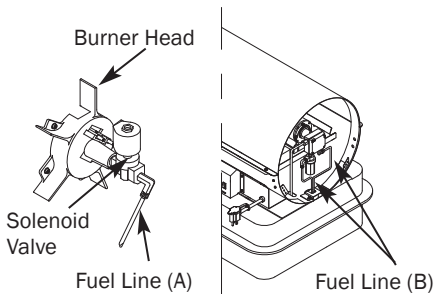

Figure 19 – Tighten Fuel Line
- Use 1/4" wrench and tighten fuel line (A) at solenoid valve and at pump (See Figure 19).
- Disconnect fuel line (B) from pump and pump fuel filter assembly with 3/8" wrench (See Figure 19).
- Connect fuel lines (B) to pump and pump fuel filter assembly.